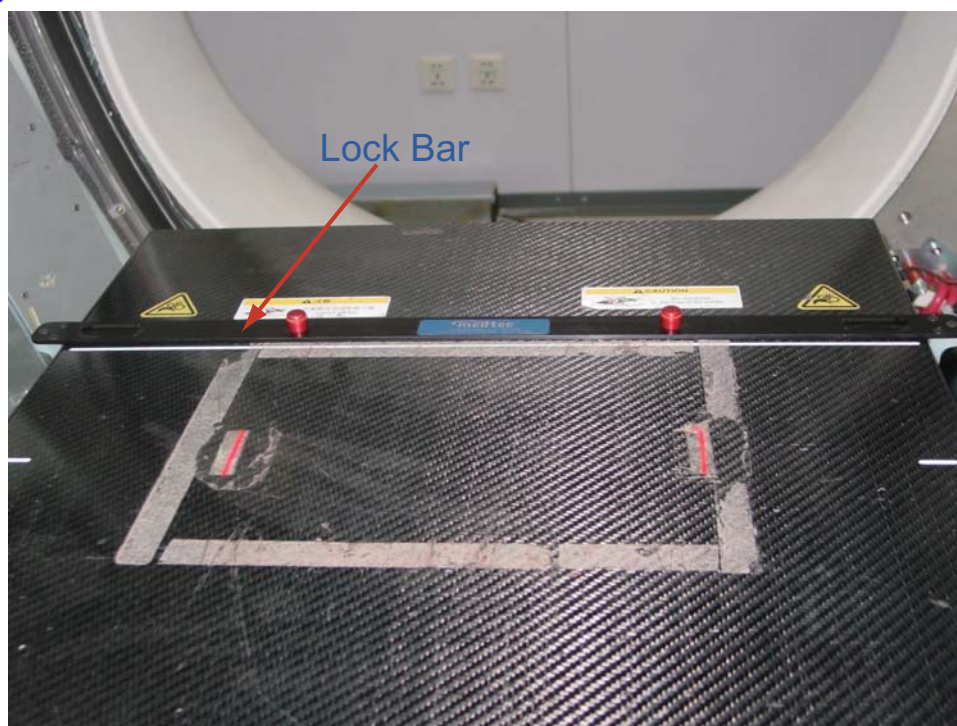

Figure 6-2 FTT lock bar
- 4.) Put the FTT Lock Bar on the first lock station of FTT. (Reference to Gantry). Please refer to Figure 6-2